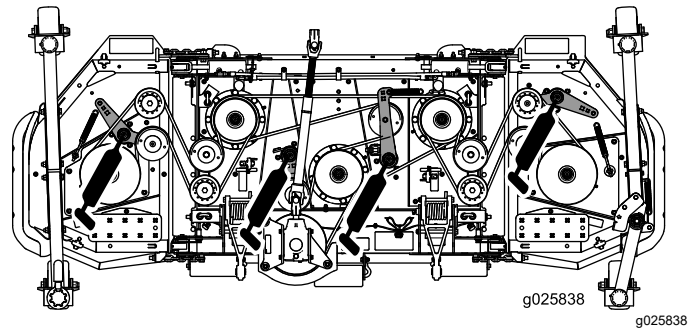

Figure 15
- Idler arm pivots (4) (Figure 15)